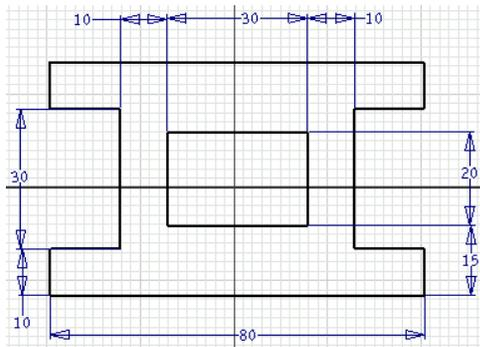

Figure 3-51 Sketch after adding dimensions
- Add the required constraints and dimensions to complete the sketch, refer to Figure 3-51.
With this, you have applied all the required constraints and dimensions to the sketch. Now the sketch is ready to be converted into a feature. If you try to add more constraints or dimensions to this sketch, the **Autodesk Inventor Professional - Create Linear Dimension** error message box will appear, informing that adding this dimension will over-constrain the sketch, see Figure 3-50. If you still want this dimension to be displayed, choose the **Accept** button from this message box, the dimension will be added as a driven dimension. A driven dimension is placed inside parentheses and is not used during the manufacturing process. This dimension is used only for reference. Note that you cannot edit the value of a driven dimension. The sketch after applying all dimensions and constraints should look similar to the one shown in Figure 3-51.